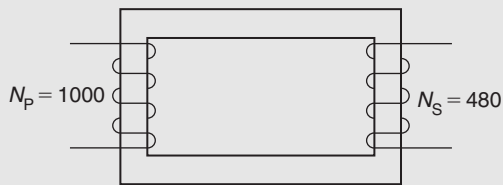

Figure 9.11
**Problem 21.** In the device shown in Fig. 9.11, when the current in the primary coil of 1000 turns increases linearly from 1 A to 6 A in 200 ms, an e.m.f. of 15 V is induced into the secondary coil of 480 turns, which is left open circuited. Determine (a) the mutual inductance of the two coils, (b) the reluctance of the former, and (c) the self-inductance of the primary coil.